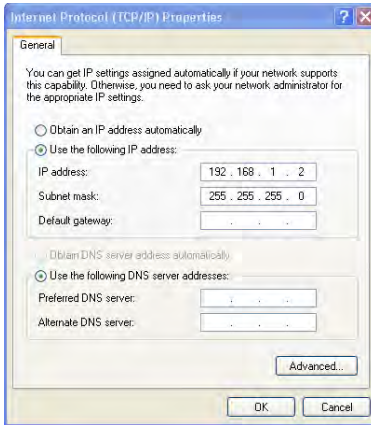

Figure 4: Internet Protocol (TCP/IP) Properties Window
6. Select *Use the following IP Address*, and fill in the details as shown in Figure 4.